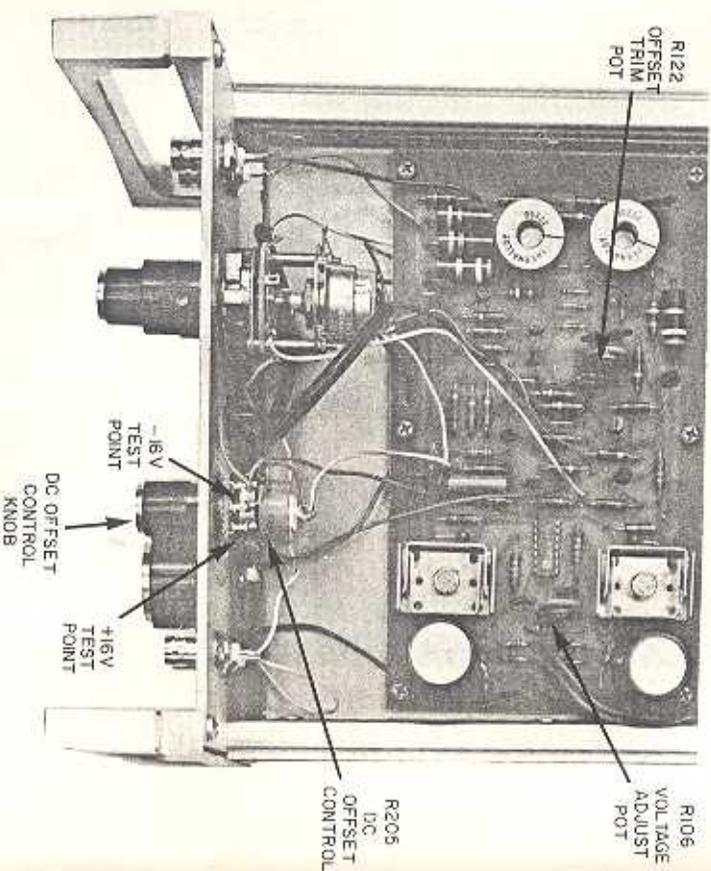

Fig. 38 Bottom view of chassis
2. Connect the digital voltmeter between the positive voltage test point and chassis ground. Adjust R106 (see Fig. 38) until the voltage is 16.0 ±0.1 volts.
5. No adjustment is provided for (3) or (4) above. If the unit fails either test, do not attempt to calibrate; seek and correct the problem before proceeding.